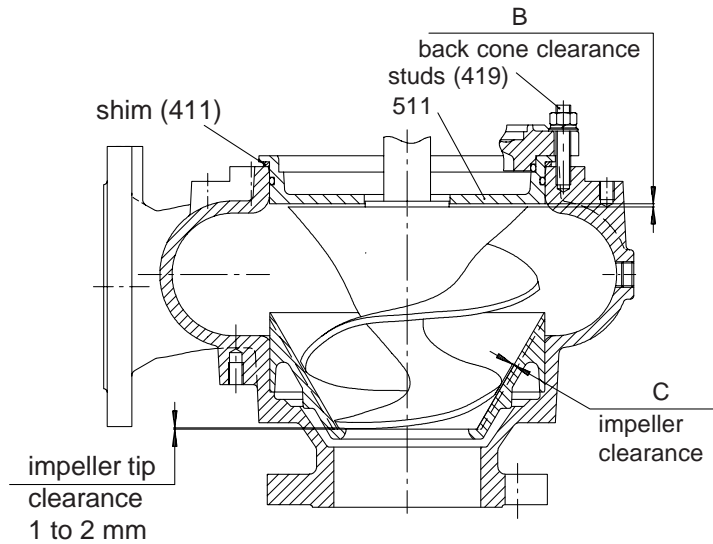

Fig. 3
- When pumping thick sludges or high consistency material, it may be necessary to double the clearances in Figure 3.
- Regulable pumps are adjusted by means of a movable liner (421); its position is regulated by three external regulator nuts (422) found on the suction casing (416) or volute casing (400). These pumps include the letter "R" in the pump code (Section 3.0).
- Other pumps have a one-piece suction cover (402), or in pumps D03K and D04K, a fixed liner (421). These pumps are adjusted by changing the thickness of the shims (411) between the drive unit and the volute casing (400).
With a feeler gauge, check the actual clearance between impeller and liner (reaching in through the suction of the pump). If the clearance "C" is significantly different to the table (Fig. 3), it is possible that the wear is excessive or not uniform: disassembly and inspection is recommended.
**For final assembly:** Place the hydraulic (already built together) with the suction flange on a flat and hard underground. Lower the drive unit - impeller assembly into casing (400) by a suitable hoist.
**For wear adjustment:** Loosen all fasteners (419) between drive unit and volute casing. Remove shims.
**General:** To **estimate correct shim (411) thickness**, lower drive unit into casing just until impeller cannot be turned. Measure gap between drive unit and volute casing at several places and take average. Now add the distance "B" (Fig. 3) to the average gap measured; this will be approximate shim thickness required to obtain correct clearance "C" (Fig. 3).
Tighten fasteners (419) again, and with a feeler gauge, check the actual clearance between impeller and liner (reaching in through the suction of the pump). If the clearance "C" is significantly different to the table (Fig. 3), it is possible that the wear is excessive or not uniform: disassembly and inspection is recommended.